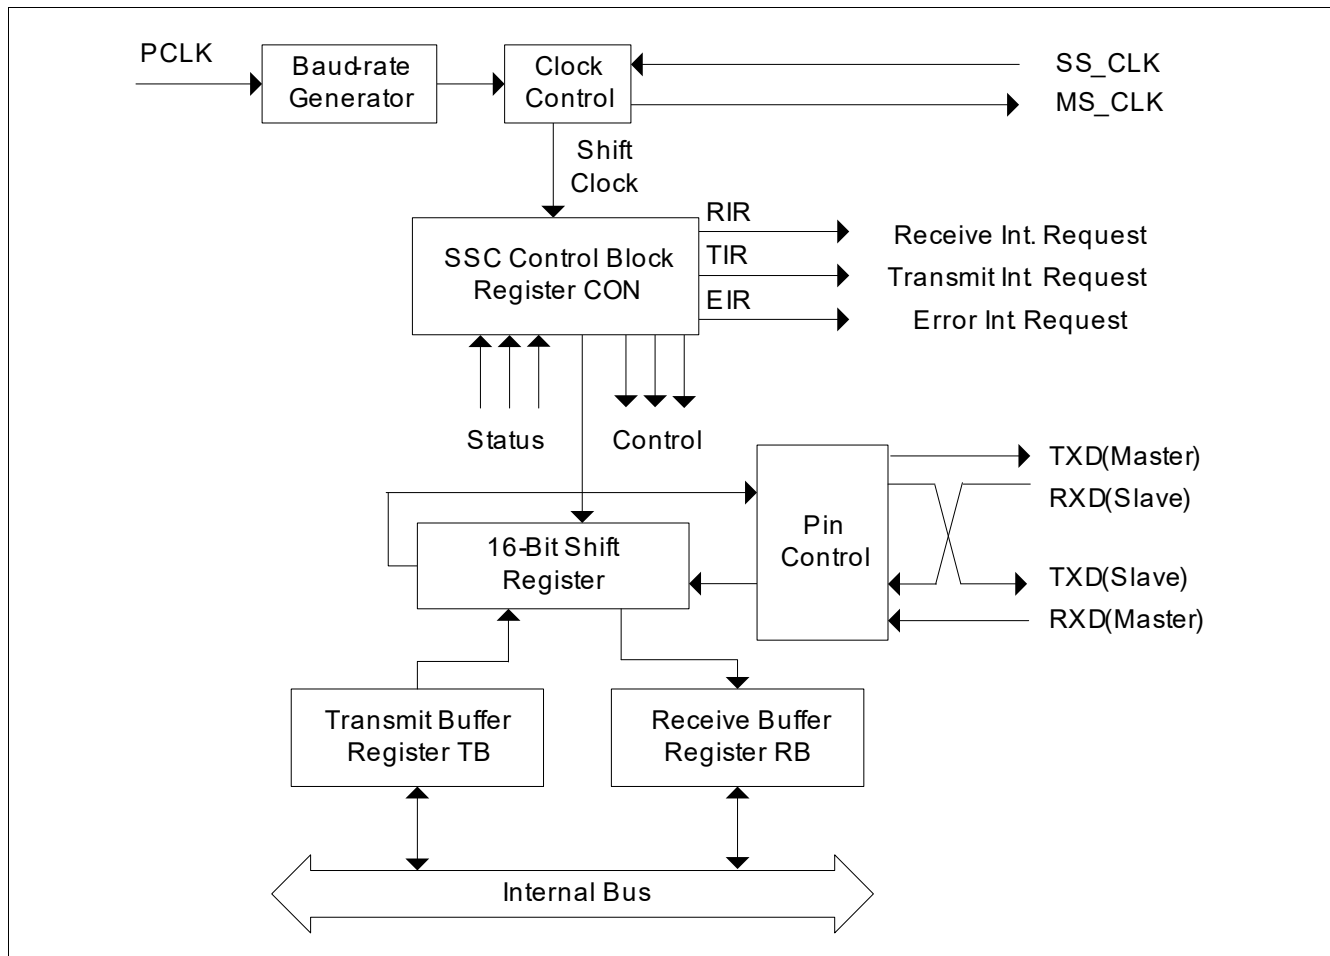
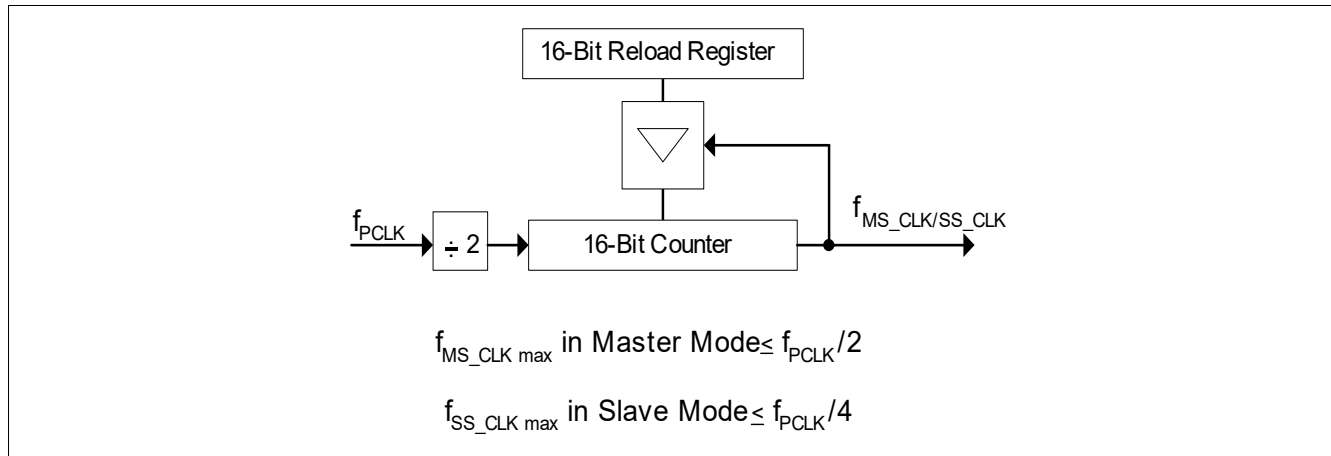

Figure 179 Synchronous Serial Channel SSC Block Diagram
Figure 183 SSC Baud-rate Generator
The shift register of the SSC is connected to both the transmit lines and the receive lines via the pin control logic (see block diagram in Figure 179). Transmission and reception of serial data are synchronized and take place at the same time, i.e. the same number of transmitted bits is also received. Transmit data is written into the Transmit Buffer (TB) and is moved to the shift register as soon as this is empty. An SSC master (CON.MS = 1) immediately begins transmitting, while an SSC slave (CON.MS = 0) will wait for an active shift clock. When the transfer starts, the busy flag CON.BSY is set and the Transmit Interrupt Request line TIR will be activated to indicate that register TB may be reloaded again. When the programmed number of bits (2 ... 16) has been transferred, the contents of the shift register are moved to the Receive Buffer RB and the Receive Interrupt Request line RIR will be activated. If no further transfer is to take place (TB is empty), CON.BSY will be cleared at the same time. Software should not modify CON.BSY, as this flag is hardware controlled.
The serial channel SSC has its own dedicated 16-bit baud-rate generator with 16-bit reload capability, allowing baud rate generation independent of the timers. **Figure 179** shows the baud-rate generator. **Figure 183** shows the baud-rate generator of the SSC in more detail.
$\langle \text{BR} \rangle$ represents the contents of the reload register, taken as an unsigned 16-bit integer, while baud rate is equal to $f_{\text{MS_CLK/SS_CLK}}$ as shown in **Figure 183**.